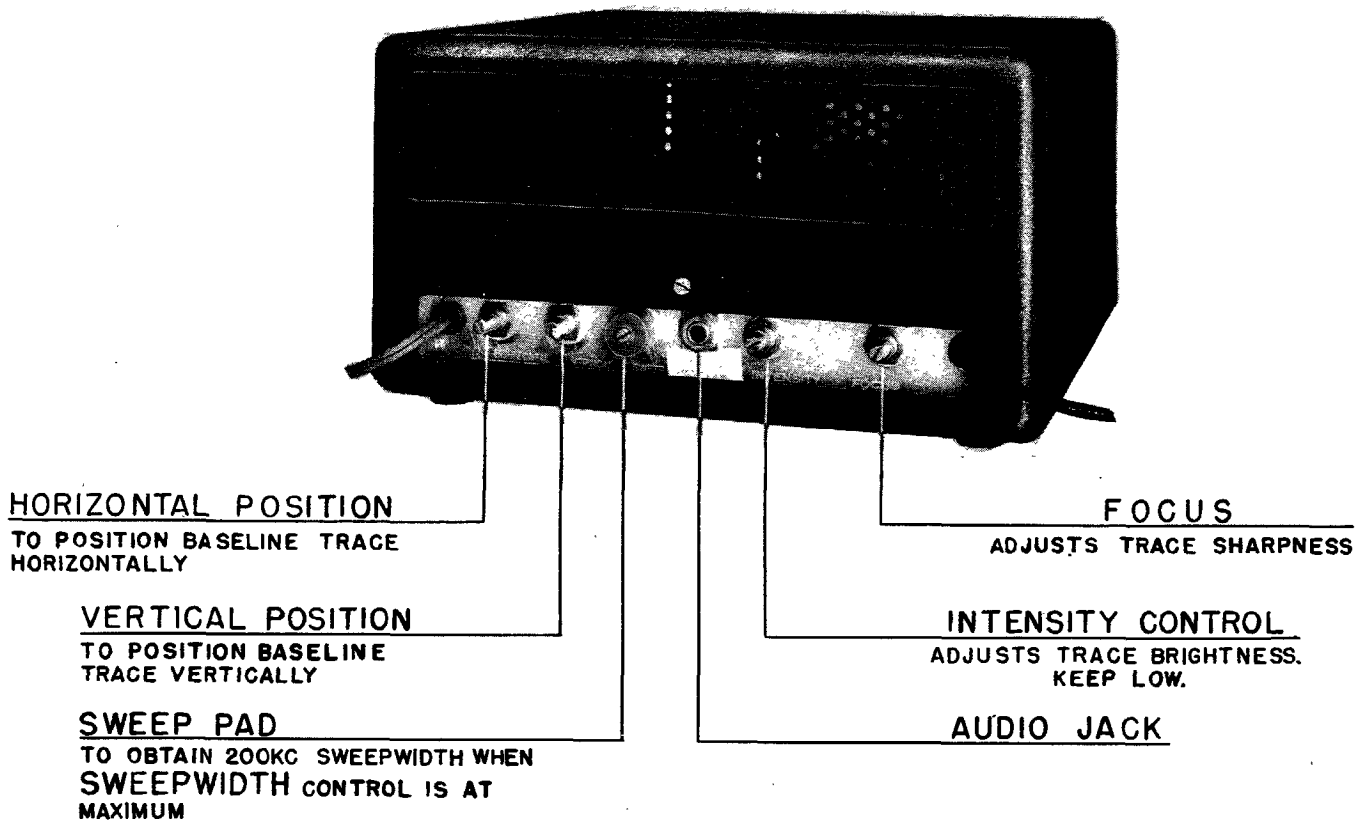

Figure 4. Service Adjustment Controls
1. Set the PANADAPTOR GAIN control to minimum (10).
2. The baseline should appear clear and sharp and coincidental with the lowest line on the screen. If necessary, adjust the screw driver controls, INTENSITY, FOCUS, VERTICAL POSITION, at the rear of the PANADAPTOR chassis. See Figure 4.
3. Set the SWEEPWIDTH to maximum (200), the GAIN to maximum (100), and the CENTER FREQ. to zero. The baseline will appear "grassy" with a slight "hump" at each end. Signals are indicated by inverted "V"s in the baseline.